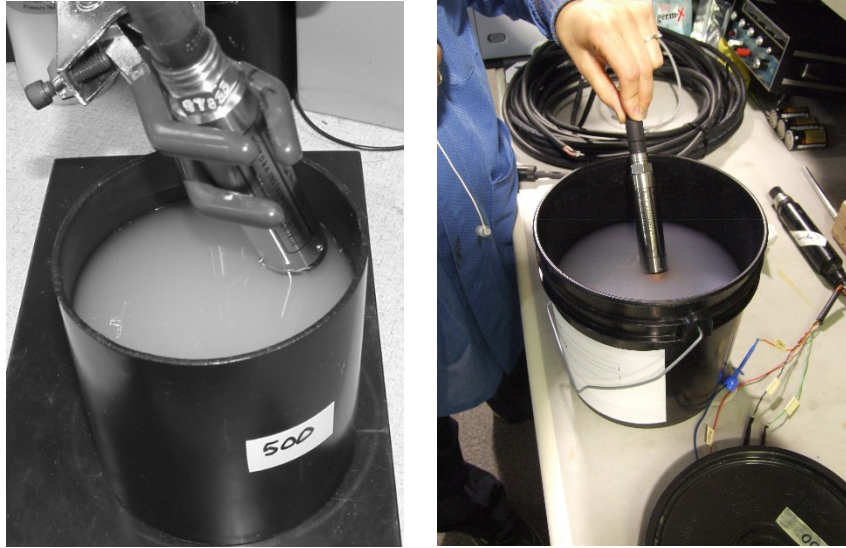

FIGURE 8-3. OBS-3+ (left) and OBS300 (right) in 500-NTU AMCO Clear® turbidity standard in 100-mm black polyethylene calibration cup
4. Position the OBS sensor in the cup as shown on FIGURE 8-3 and record 10-second averages of the low- and high-range outputs. Record the average outputs on the calibration log sheet.